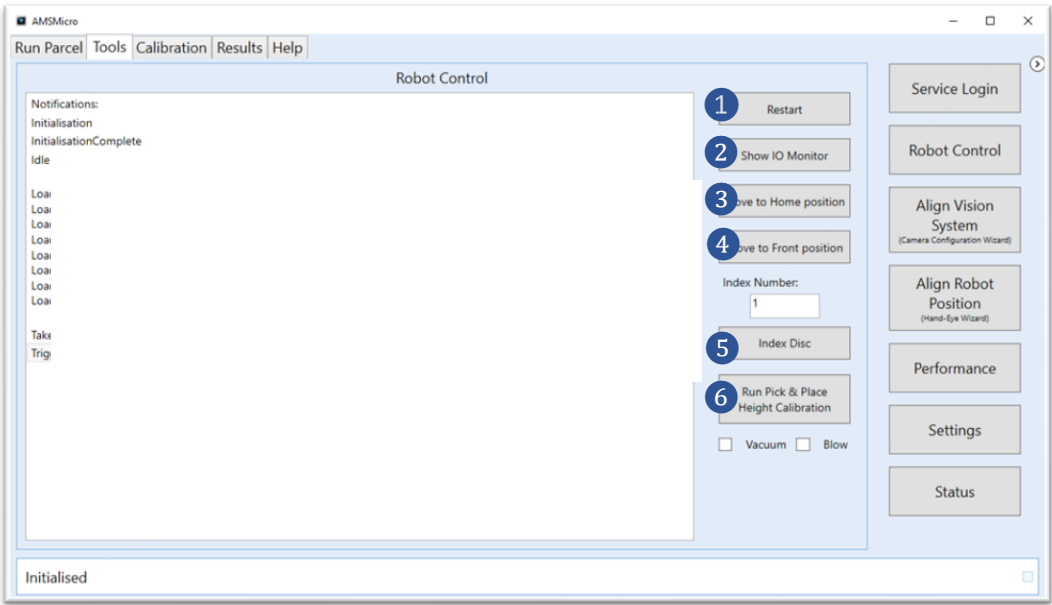

Figure 40 – Robot Control Functions
Within this view a number of different functions, shown as ① to ⑥ in Figure 40, may be selected. These are described in the following sections.